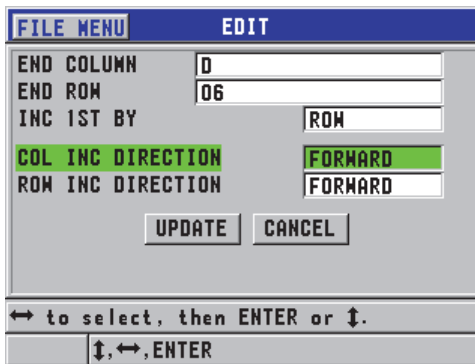

Figure 6-30 Displaying the grid edit screen
3. For a grid file, select **CONTINUE**, and then perform the following actions in the second page of the **EDIT** screen (see Figure 6-30 on page 121):